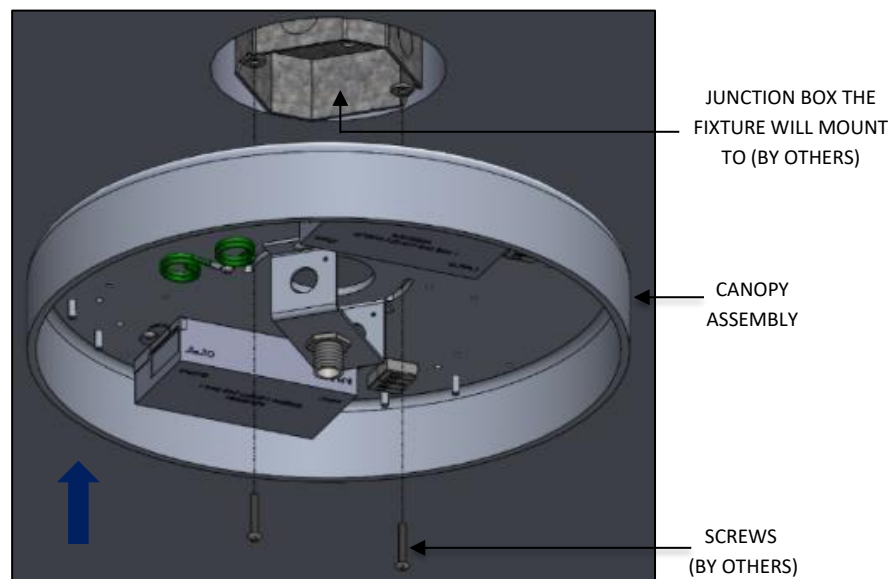

FIG. 12 – CANOPY ASSEMBLY INSTALLATION
10. Assemble the CANOPY ASSEMBLY to the JUNCTION BOX (by others) with screws (by others) at the center of the non-powered mounting points as shown in FIG. 12 below.